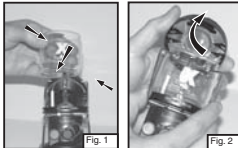

Fig. 3
- Remove GLOBE. (Fig. 3)
- Retirez le GLOBE. (Fig. 3)